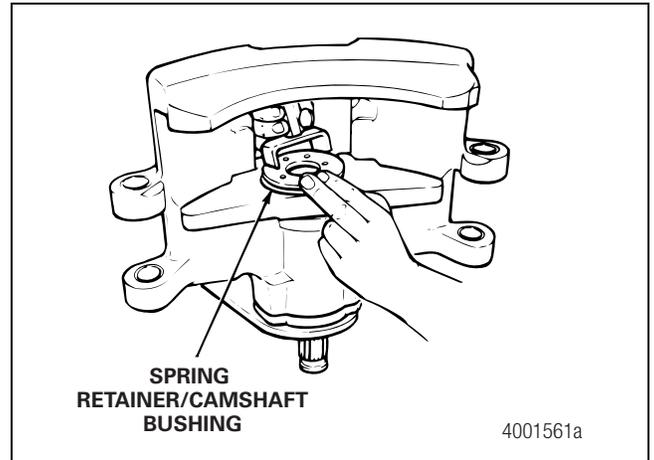

Figure 5.7
8. Turn the nut in the opposite direction to release the spring pressure. When the tool is completely retracted, hold the spring retainer with one hand and remove the adaptor tool. Figure 5.7.